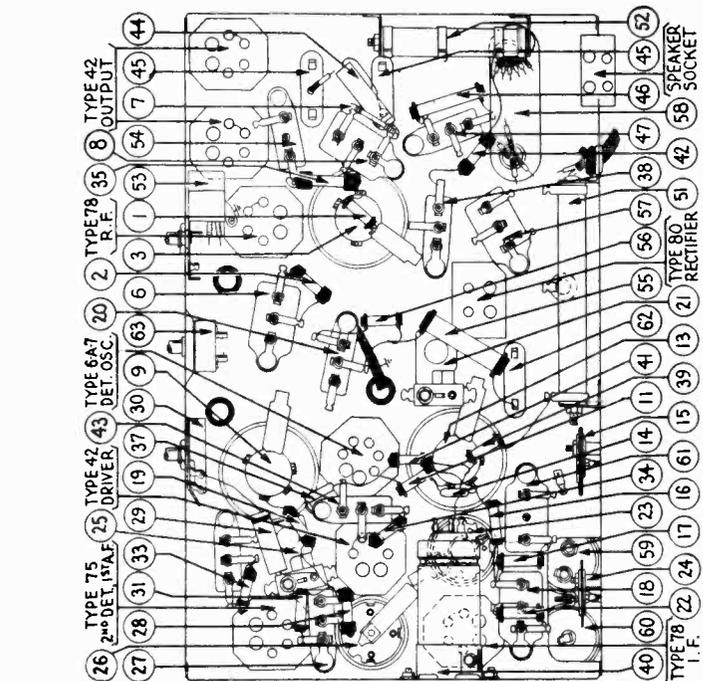
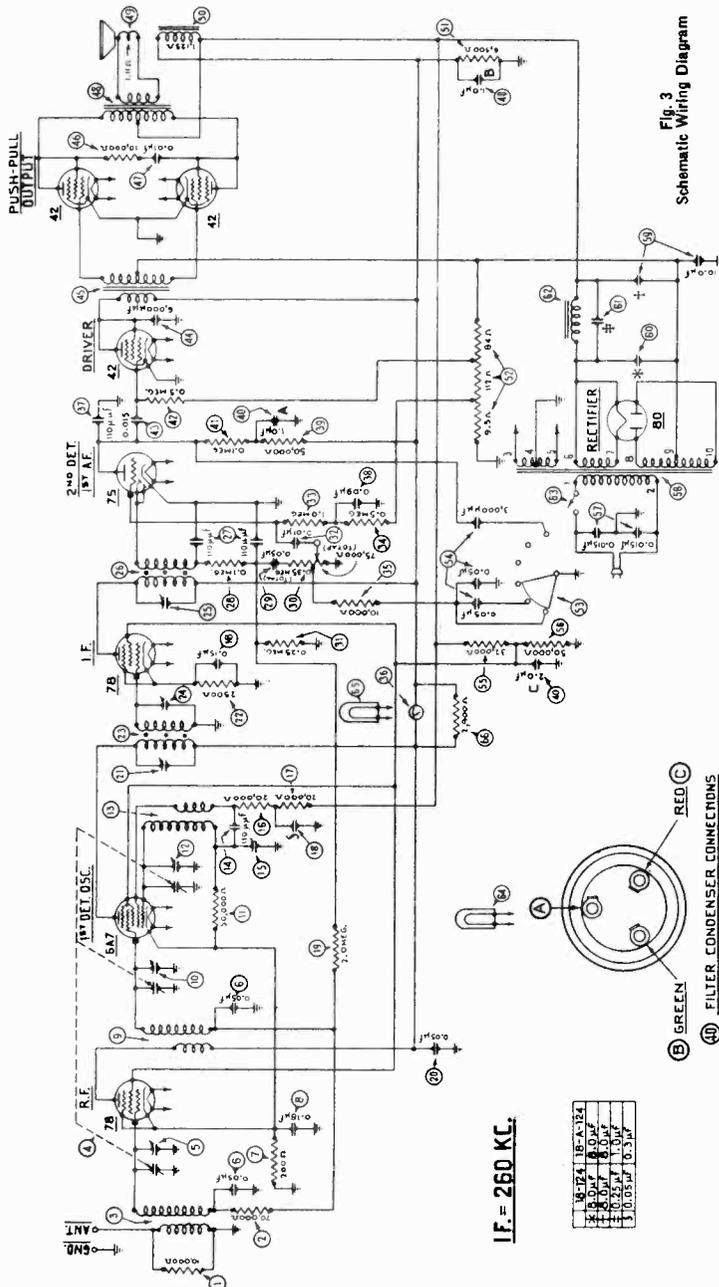

Fig. 4 - Bottom View of Chassis Showing Parts
Fig. 3 Schematic Wiring Diagram
1. I. F. (Intermediate Frequency). Remove the grid clip from the cap on the 6A7 tube and attach the shielded antenna lead from the signal generator to the grid cap of the 6A7. Set the switch of the signal generator at 260 K. C. (the I. F. of Model 18) and the dial of the set at 550. Turn on the set and signal generator. Adjust each of the three I. F. compensating condensers in turn to give maximum reading in the output meter (connected to primary of output transformer). If the needle on the meter goes off scale, turn down the attenuator adjustment on the signal generator. See Fig. 4 for locations of the I. F. compensating condensers. The first and 2d I. F.
2. ANT. H. F., DET., and OSC. H. F. CONDENSERS (⑤, ⑩, and ⑫.) These are located on top of the tuning condenser assembly and adjusted from above. ⑤ is mounted on the section nearest front of set. Replace the grid cap clip on the 6A7 and connect the antenna lead of signal generator direct to antenna post of set for these adjustments. Set signal generator at 1500 and dial of set at 1500.
3. OSC., L. F.—This adjustment ⑬ is made from rear of chassis (see Fig. 4). Set Signal Generator and dial of set at 600. The tuning condenser assembly should be "rocked" while this adjustment is being made.
NOTE: A resistor No. 5309 (2900 ohms) (red-white-red) is used, shunted across the shadowmeter. Not shown in Fig. 3 or Fig. 4.